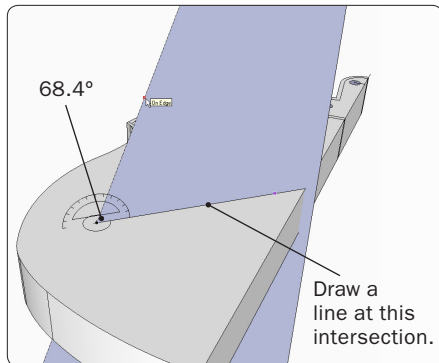

Figure 47. Draw a line where the triangle intersects the seat, then measure the angle.
Step 18 Select the seat component for editing, then use the Line Tool to draw a line where the triangle intersects the seat face. Use the Tape Measure to check the angle formed by the line across the seat face and hypotenuse of the triangle (Figure 47). Delete the triangle. Repeat these steps for the rear leg.